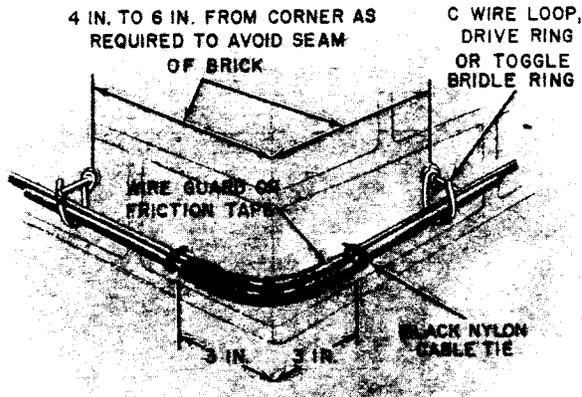

Fig. 22—Spacing Attachments at Outside Corner of Building
7.01 Intermediate attachments on buildings are shown in Tables F, G, and H and in Fig. 22 through 30. Plan the wire run so the locations of the point of entrance and the location of the station protectors (where the latter are required) will conform to the rules covered in Section 462-005-100.